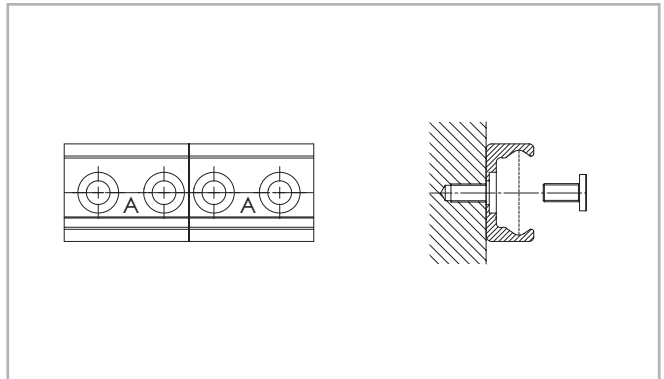

Fig. 166
- (1) Fix the individual rails on the mounting surface by tightening all screws except for each last one on the rail joint.
- (2) Install the end fixing screws without tightening them (see fig. 166).